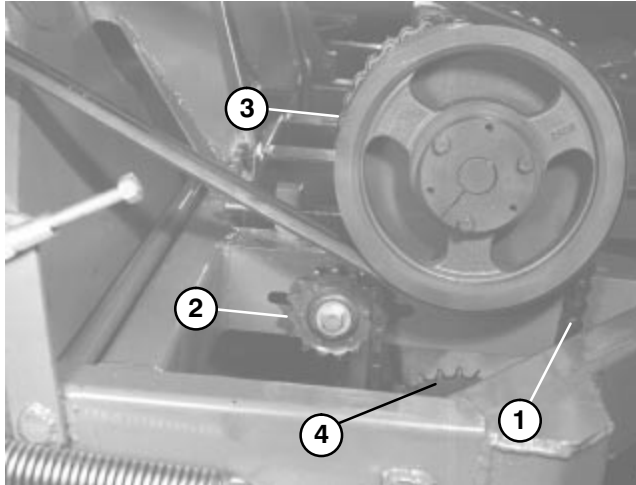

Figure 40
A. Loosen drive chain idler sprocket and back it off completely (Fig. 40).
B. Loosen (4) capscrews on gear box base and (2) capscrews on gear box shields.
Drive Chain (Model 07052 only) (Fig. 40)